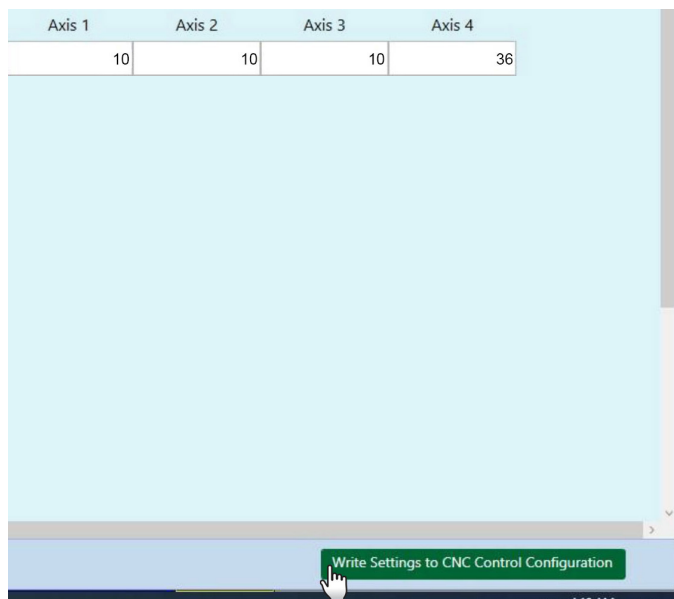

FIGURE 9
- Go back to step 1 to get back to the Homing and Travel page. Enter the new value for the axis. Then click on “Write Settings to CNC Control Configuration.” This will save the settings (see Figure 9).